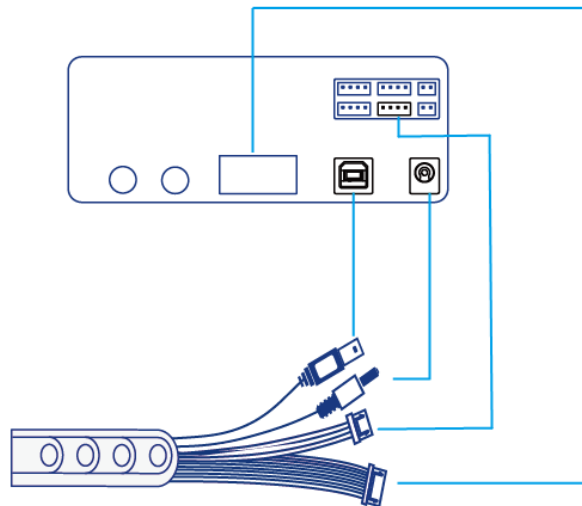

Figure 1.8 Connect to Dobot Magician
**Step 5** Connect the interfaces on the end of the wire set to Dobot Magician, as shown in Figure 1.8.